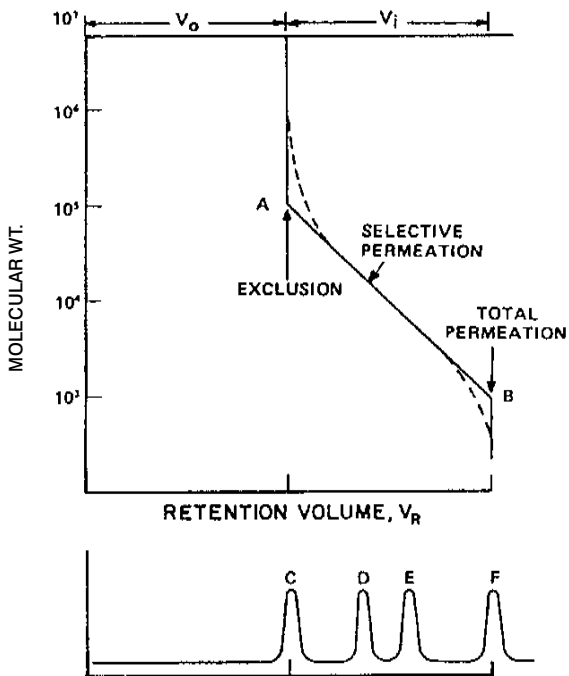

Figure 3. Hypothetical calibration plot for a SEC column. Reprinted from Ref. 3 with permission.
Figure 3 shows the familiar separation characteristics of SEC columns.
- The last peaks (lowest molecular weights) elute at the void volume (e.g., peak F at volume B in Fig. 3). These extreme peaks (C & F) are often mixtures of compounds because selectivity is exhibited only in the region between these two extremes (also known as the fractionation Range).